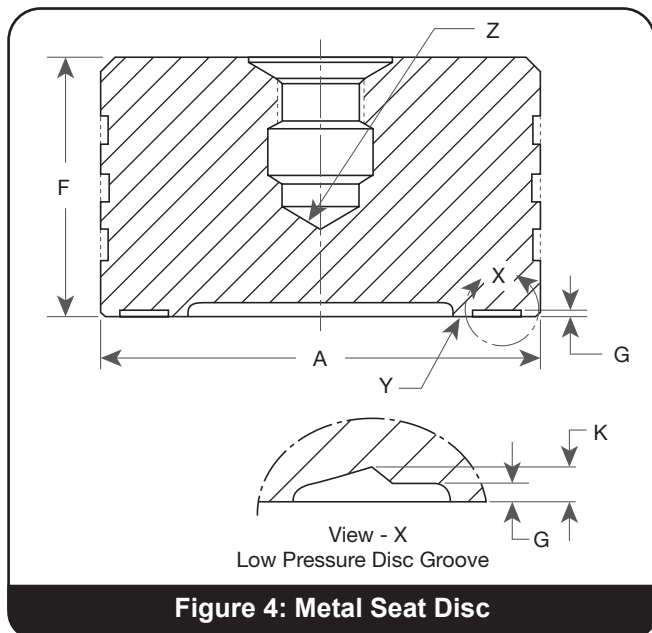

Figure 4: Metal Seat Disc
- a. Seat Surface (Y) is nicked.
- b. Spindle bearing surface (Z) is galled or pitted.
- c. Exceeds dimensions mentioned in Table 1 and Figure 4.